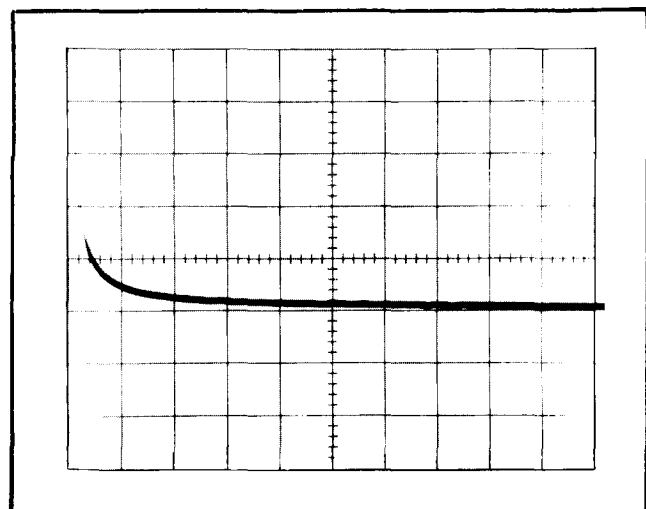

Fig. 5-12. Typical waveform showing overdrive recovery time.
j. CHECK—The waveform as the Reed Pulse Generator Man switch is released. Readjust the Time Base Level-Slope as necessary for proper triggering. The trace should return to within 5 mV of the reference (1 division below the graticule center) within 10  $\mu$ s (5 divisions). See Fig. 5-12 for photograph of typical recovery waveform.